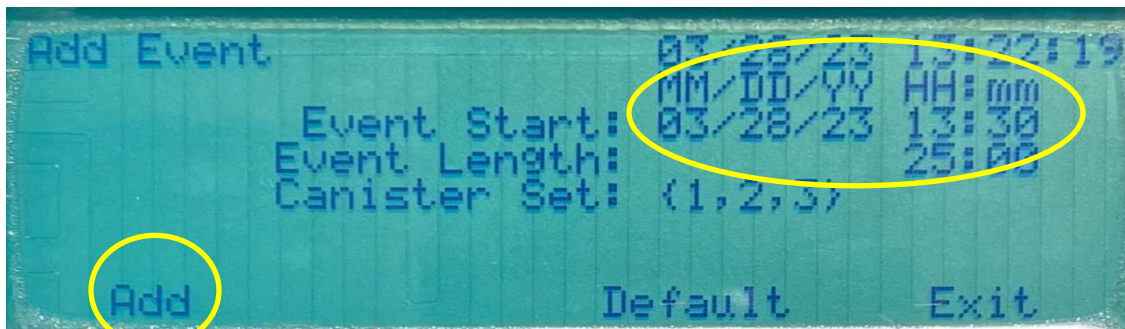

Figure 28: Adding a new event.
3.5.4 Using the arrow keys, for Event Start select a starting Date and Time. The Event Start Time should be scheduled at least a couple of minutes ahead of set-up time and must be observed for at least 7-10 minutes to make sure the equipment is running smoothly after the sampling event has commenced (Figure 28).